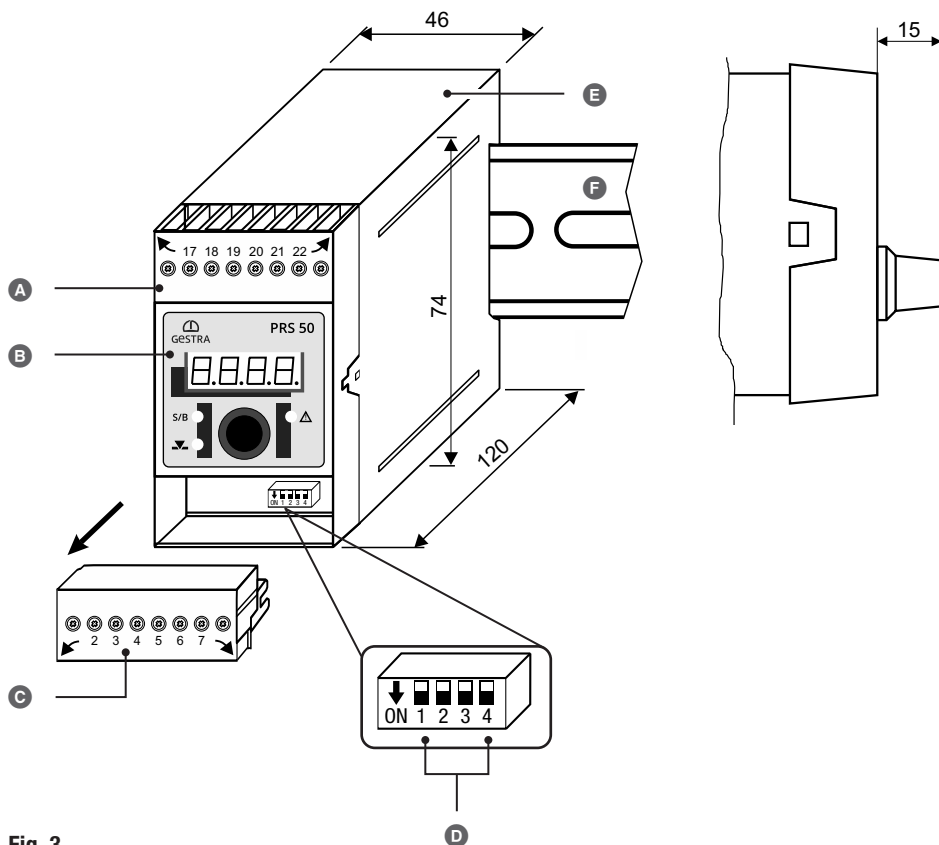

Fig. 3
You can change the standby/burner function of the PRS 50 blowdown timer using code switch ① (see **Fig. 3**) at any time if necessary.
Code switch ⑤ - sliding switch, white, see Fig. 3